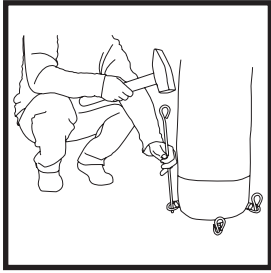

Fig. 1
3. Anchor first leg of arc to the ground by inserting spike into the rings at the base (Fig. 1).